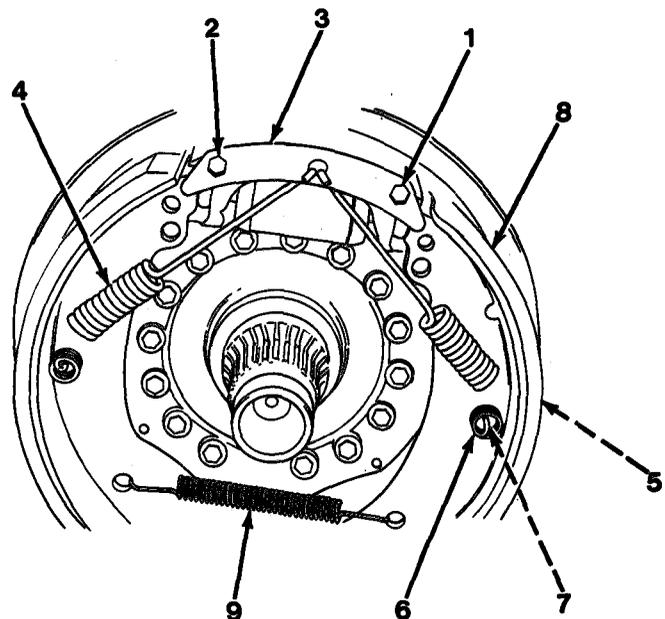

Figure 12-1
5. Turn adjustment screws (20) until distance between slots is 4.00 in. (101.6 mm) and both slots have the same distance (B) to star wheel on each side. By following this procedure, brake shoes will be properly centered.
6. Install brake shoes (8), lockplate (7), springs (6), spring retainers (5), spring (9), springs (4), spring retainer plate (3) and bolt (2, Figure 12-1). Using spring retainer plate (3), tension springs (4) and install bolt (1). Torque bolts (1) and (2) to 18 lb-ft (24 N•m).
7. After brake shoes (8) have been installed, check diameter of brake. Diameter must be 0.010 to 0.020 in. (0.25 to 0.51 mm) less than inside diameter of brake drum.